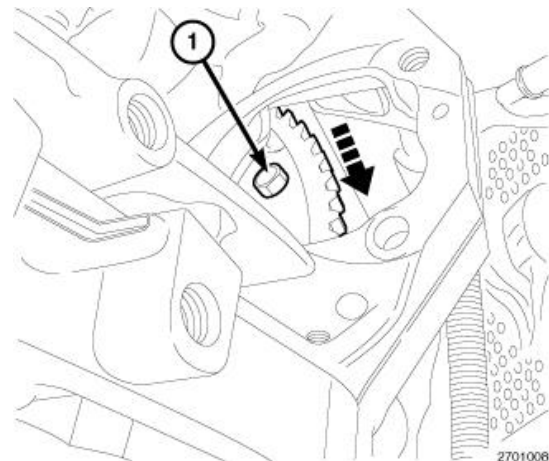

Figure 25 – Torque Converter Bolt
47. Rotate the crankshaft in a clockwise direction for access, and through the starter opening, remove the six torque converter bolts (1) (Figure 25).